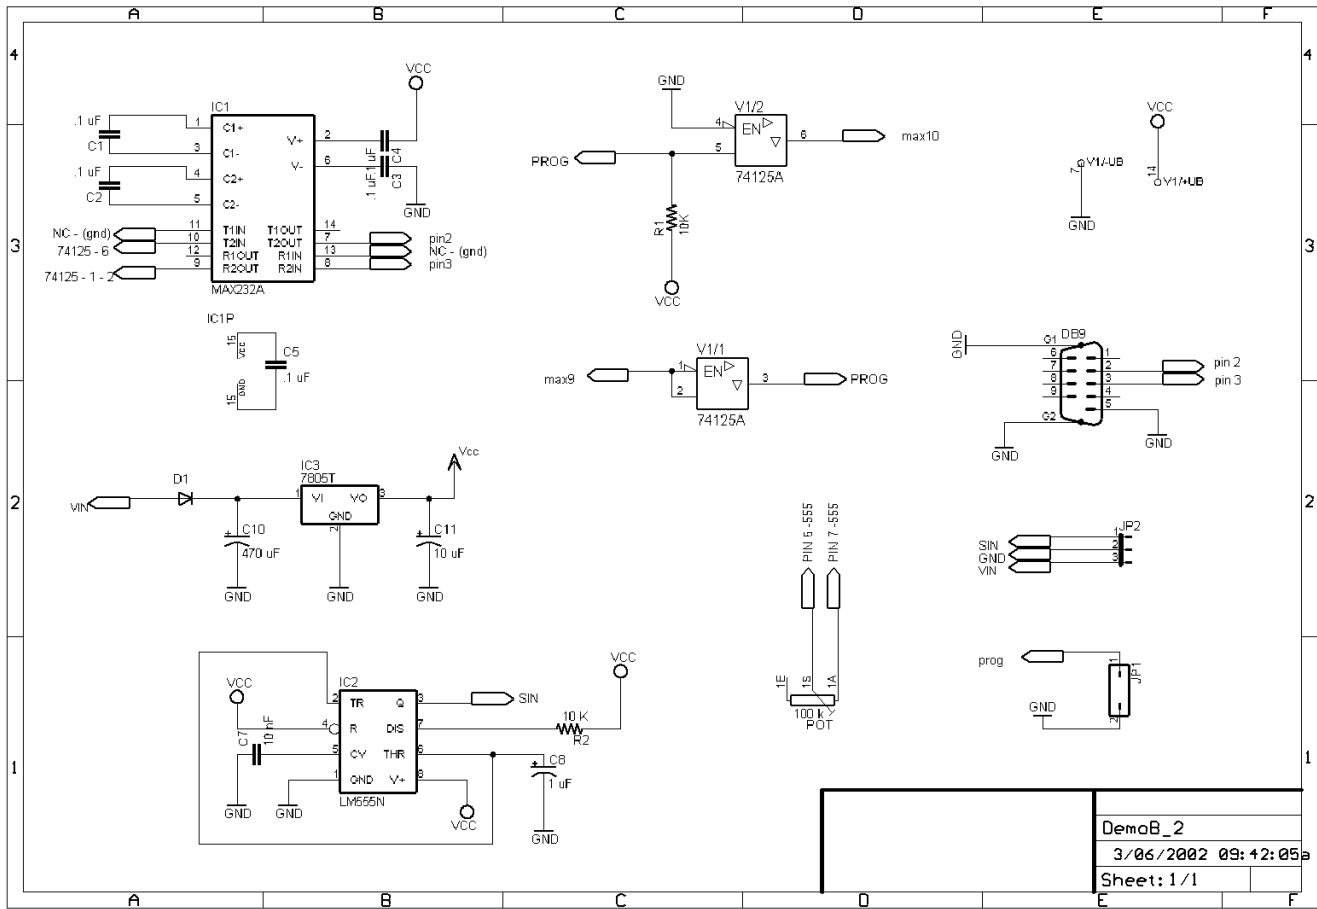

Figure 5-1. Programmer and Testing Board Schematic
**Figure 5-1** shows the programmer and testing board schematic. The schematic is available for download at: